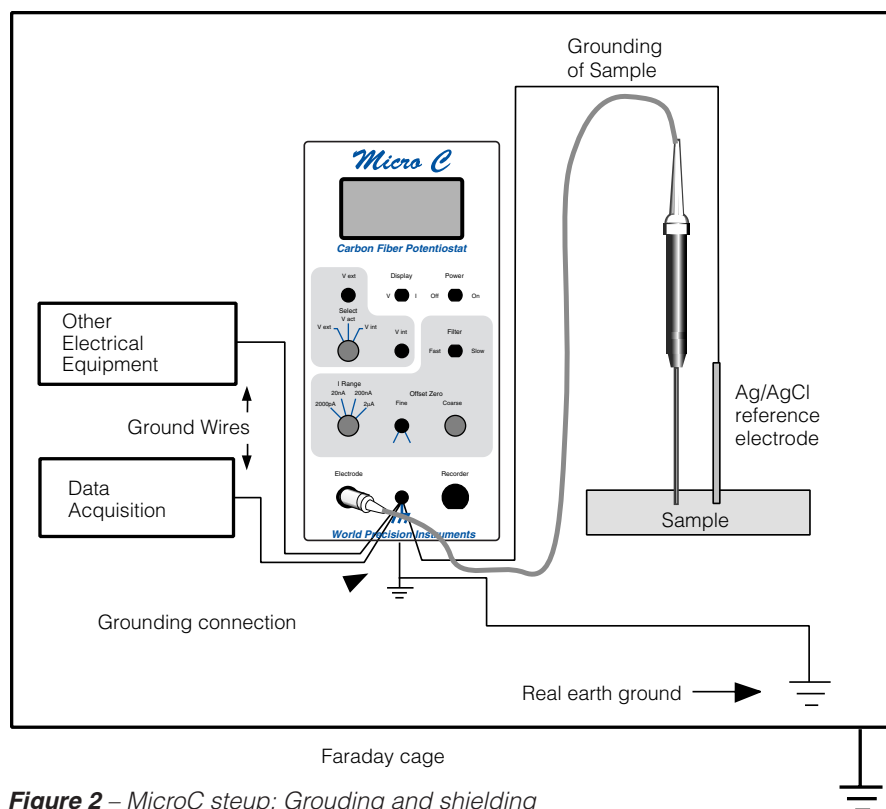

Figure 2 – MicroC setup: Grounding and shielding
**Ground:** The black jack between the electrode and recorder connector is the circuit and chassis ground. It should normally be connected to the preparation reference electrode (Ag/AgCl half cell) as shown in Figure 2 (page 4). WPI's reference electrodes (DRI-REF™ series) are excellent for this application. In some cases, however, a smaller Ag/AgCl half cell (EP series) might fit better in very small preparation chambers.
The general setup of the MicroC carbon fiber potentiostat is illustrated in Figure 2.